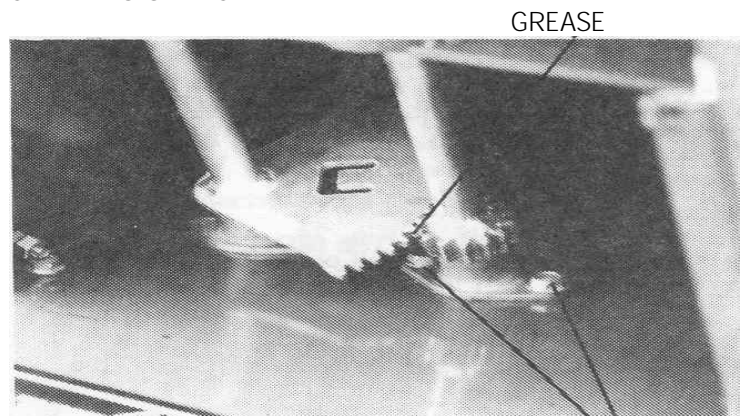

Fig. 21
- Grease nipples on steering pivot blocks Fig.21
- Steering gears Fig.21